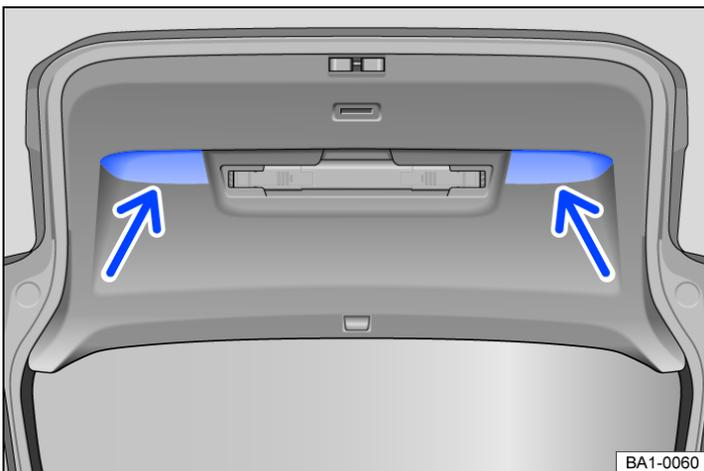

Fig. 2 Open boot lid: handle recesses for closing the boot lid.
- Pull the boot lid down with force by the handle in the interior trim → *Fig. 2* so that it engages in the lock → .